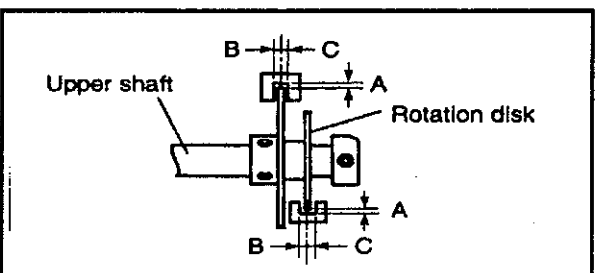

FIG.4
- (3) Temporarily secure the bracket with two retaining screws (a). Check the following and firmly secure the screws: $A=2 \pm 0.5\text{mm}$ and $B=C$ (Fig.4).